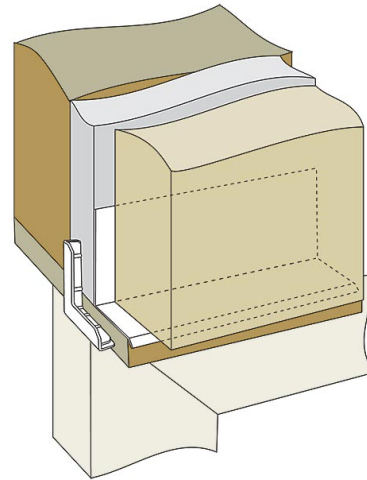

Figure 3 – End Caps
2. End dams or caps are incorporated into or added to each end of the head flashing (**Figure 3**) to capture incidental moisture within the head flashing, which provides a direct path to the exterior.
Some of the many benefits of PVC plastic include ease of installation, not corroding or rusting, availability in various configurations and dimensions, cost-effectiveness and being safe to handle, as well as colors to complement surrounding building components. PVC plastics are typically available in 10-foot-long sticks or lengths that are easily cut on the job site with common tools, such as a utility knife or saw. Accessories, such as end caps or dams (**Figure 3**), can be field-installed with standard PVC adhesive to capture moisture within the flashing, which provides the most direct path to the exterior. PVC plastic trim manufacturers also offer other accessories, including built-in moisture seals, or backer rods and custom products for specialized applications.